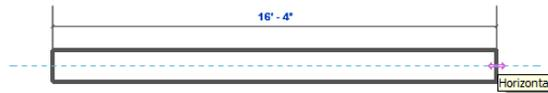

Figure 3-32 Sketching a horizontal wall segment
5. Move the cursor on the horizontal axis such that a dashed line appears at the central axis of the wall segment, as shown in Figure 3-32. Notice the two-sided arrow attached to the endpoint of the wall. This indicates that the wall segment being sketched is horizontal. A tooltip indicating the horizontal alignment is also displayed with two-sided arrow.